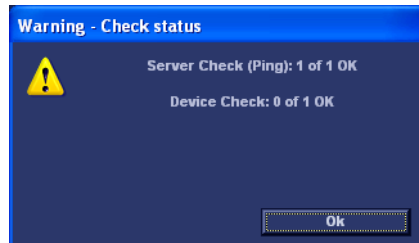

Figure 3-84 Test (Check) Fails directly
- If the test fails, a pop-up dialog reporting the results as "0 of 1 OK" is displayed. In the example in Figure 3-84, the warning message pop up almost at once, and it states that for the Server Check (Ping), 1 of 1 is OK but the Device Check failed (0 of 1 OK). This indicates that the network connection functions OK, but the application on the remote server is not answering. If the test fails directly, as described in this example, the AE Title is probably wrong.